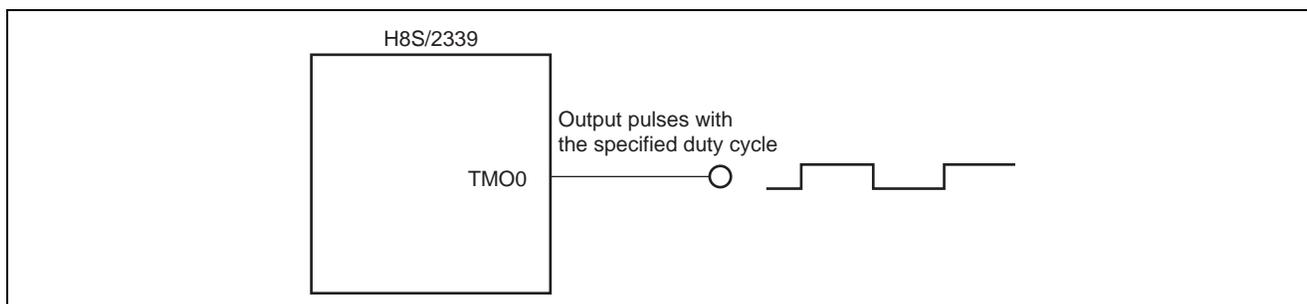

Figure 1 Example of TMR Pulse Output with Controllable Duty Cycle
- According to TCR0 and TCSR0 settings, TCNT0 starts counting. A pulse signal with the duty cycle that is determined by TCORA and TCORB settings is output from TMO0 (pin 77). (Figure 1)